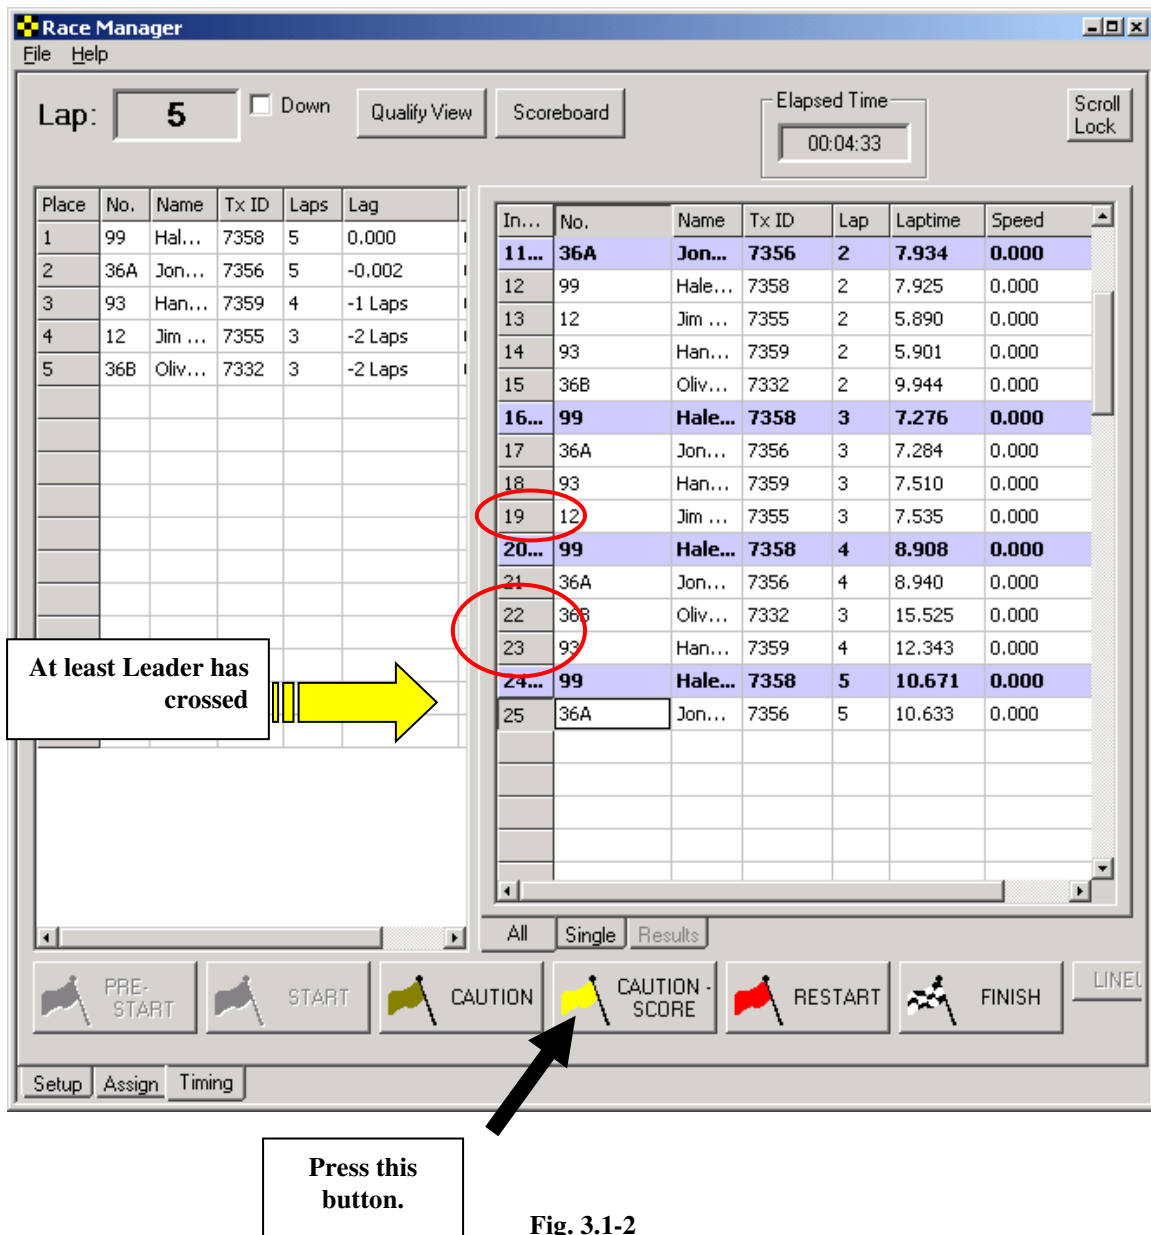

Fig. 3.1-2
2. If the yellow flag is thrown after at least the leader has crossed press the **Caution-Score** button. See fig 3.1-2